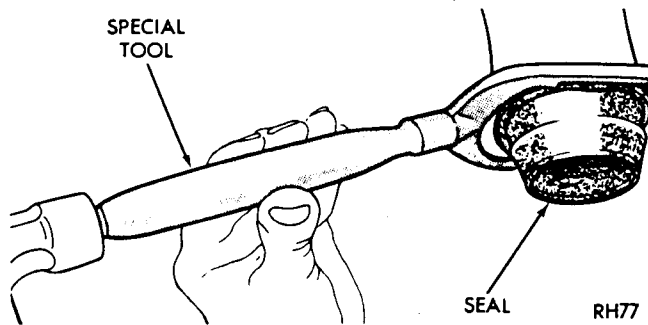

Fig. 5—Remove Extension Housing Yoke Seal
(2) Remove oil seal with Tool C-3985 (Fig. 5).
(1) Remove oil seal with Tool C-3985 (Fig. 5).